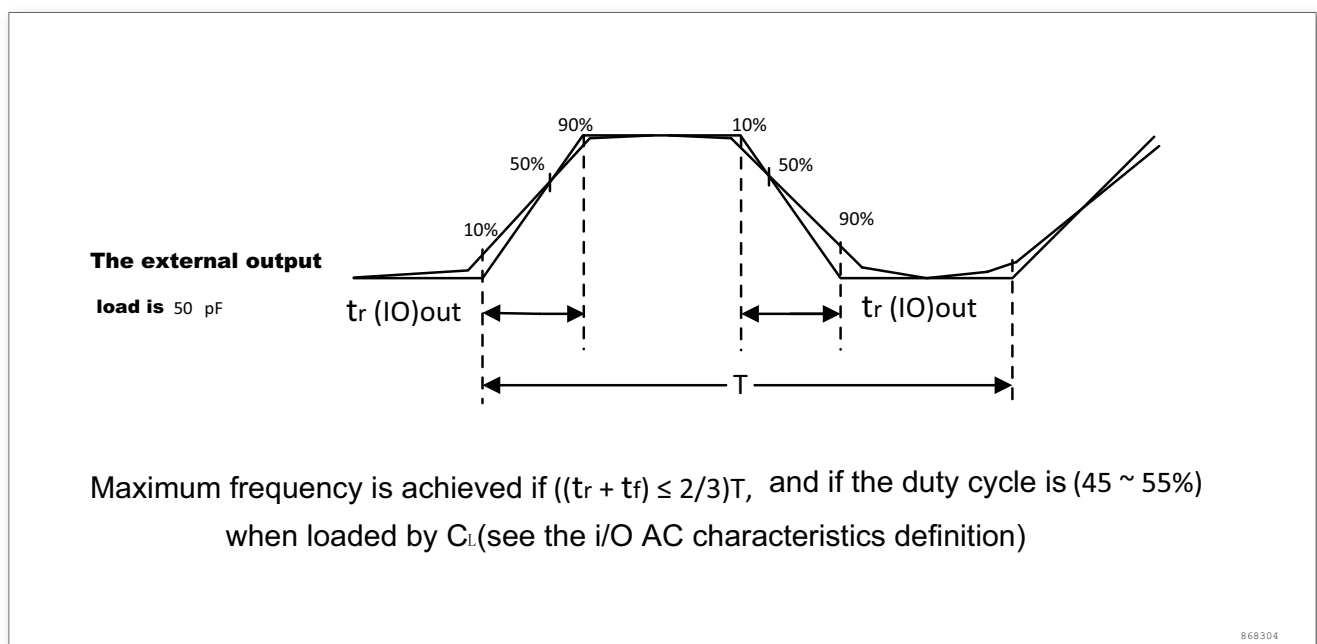

Figure 16. I/O AC characteristics
The definitions and values of the input and output AC characteristics are given in figure 16 and Table 33, respectively.
2. The maximum frequency is defined in figure 16.